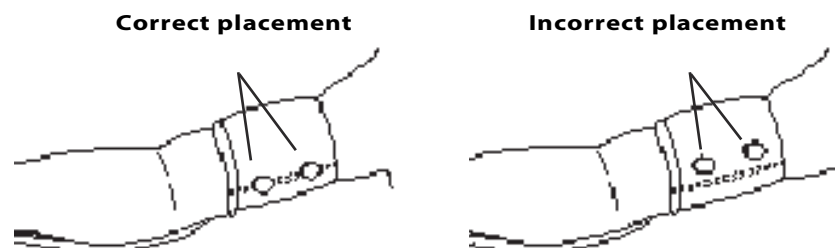

Figure C-2: Positioning the cuff over brachial artery
2. Proper placement of the microphone is critical. Position the cuff so that the microphone cable/cuff tube harness extends down the patient's arm towards the wrist. Ensure that the two microphones are positioned over the brachial artery (located below the bicep muscle on the inside of the upper arm). See Figure C-2. Do not use the red tab to align the cuff on the patient's arm. Only use the red tab to locate a microphone and then align the microphone over the brachial artery